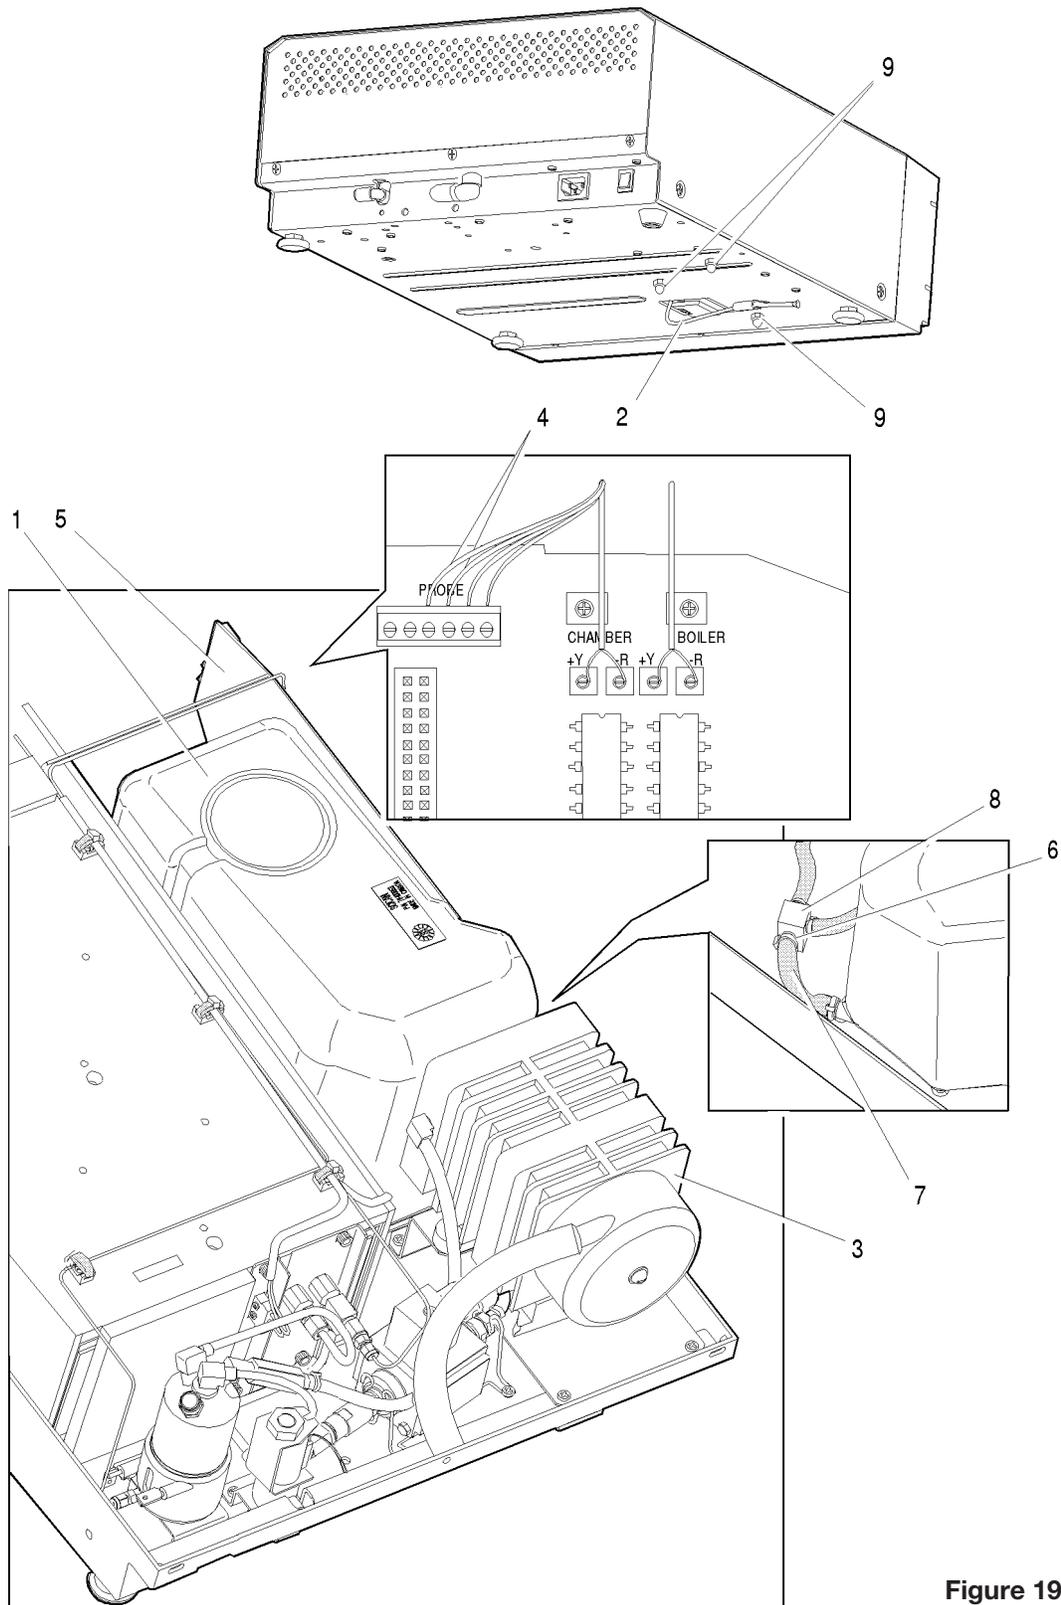

Figure 19
To remove the reservoir (1), proceed as follows (see Figure 19):
To reinstall the reservoir, follow these steps (see Figure 19):